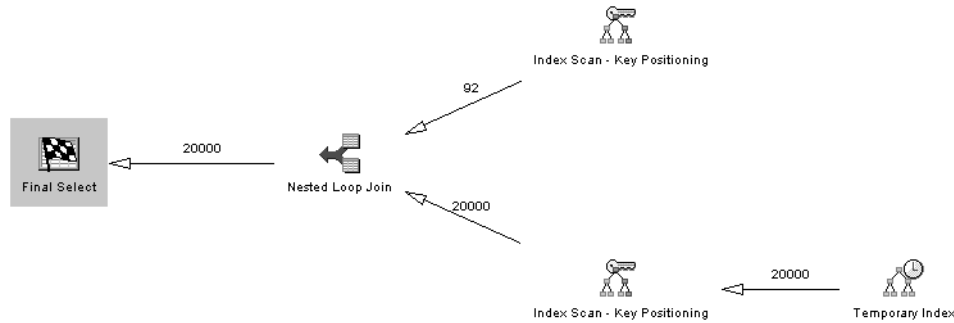

Figure 4. Nested Loop Join
- ___ 3. Verify that the graph you received resembles the example in Figure 4.